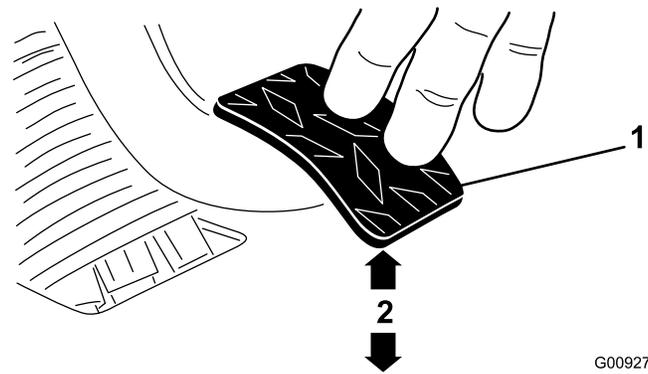

Figure 69
3. Adjust the jam nuts or ball joint until the rear edge of the clutch pedal is 9.2 to 9.8 cm (3.63 to 3.87 inches) from the top of the floor plate diamond pattern, when an 1.8 kg (4 lb) force is applied to the pedal (Figure 69).